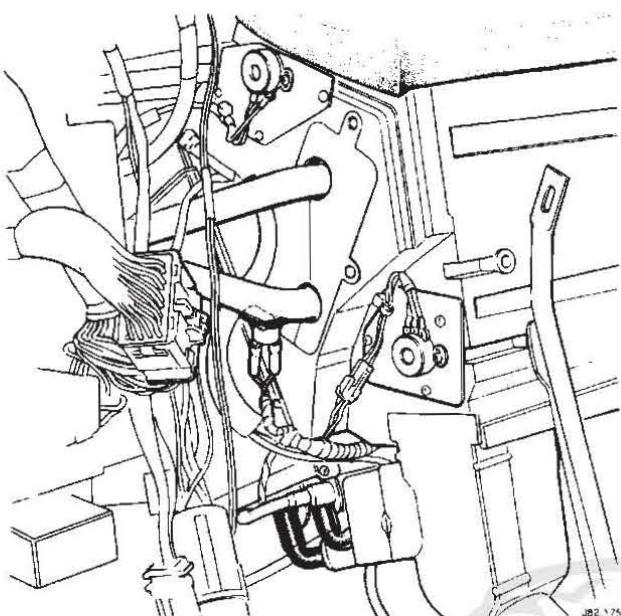
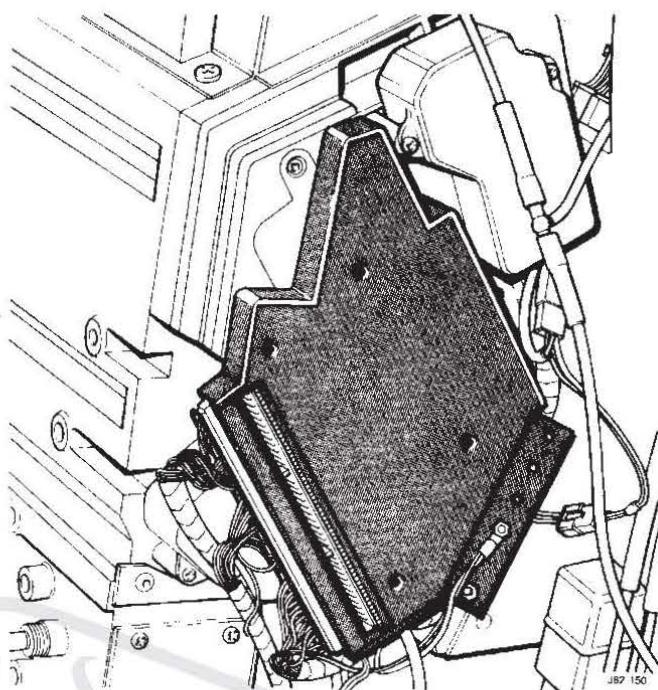

FIG 1
FIG 2
- 1) Remove the necessary passenger's and driver's side underscuttle trim to gain access to the lower feed back potentiometer (L/H side Fig 1), and E.C.U. (R/H side Fig 2).